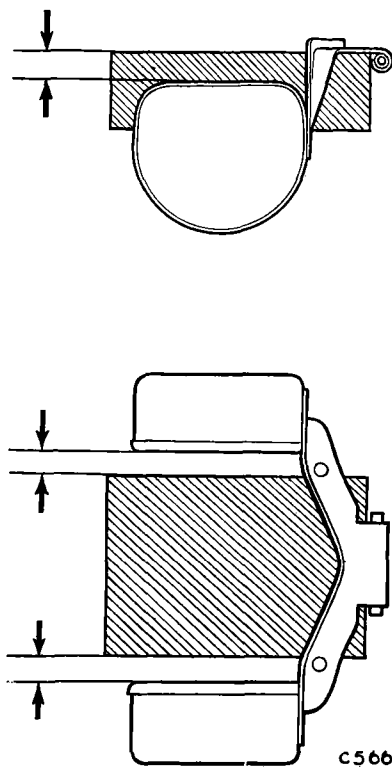

Fig. 29. Checking and adjusting float setting
7. **Float adjustment** — Using an oblong wood or metal block, $1\frac{1}{2} \times 2 \times \frac{1}{2}$ ($38.1 \times 50.8 \times 12.7$ mm.), place the float on the block as indicated on Fig. 29.